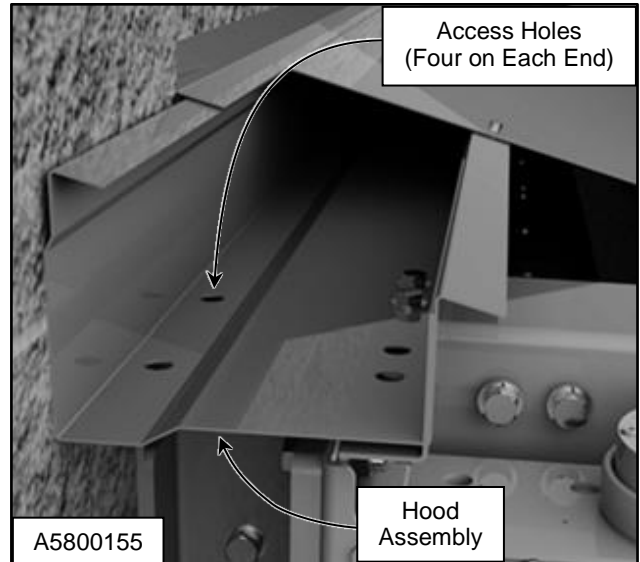

Figure 33
3. If the optional hood assembly is installed, route all cables and wires through prefabricated access holes. (See Figure 33)